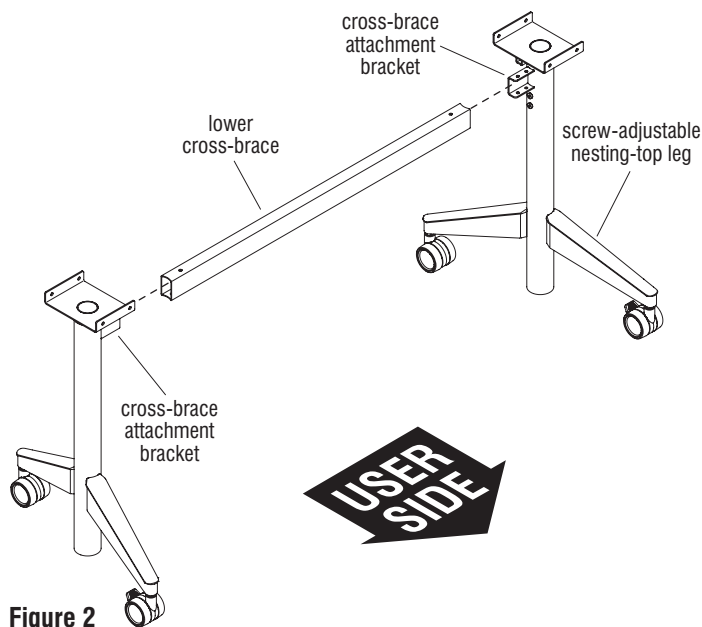

Figure 2
8. Orient the lower cross-brace so the side with one mounting hole on each end is on the top of the brace, while the side with two mounting holes on each end is on the underside of the brace (Figure 2).
9. One leg at a time, insert the cross-brace attachment bracket into an available open end of the lower cross brace, making sure the brace side with one mounting hole on each end is on the top. If the brace is not positioned correctly for installation, disassembly and reassembly will be required (Figure 2).